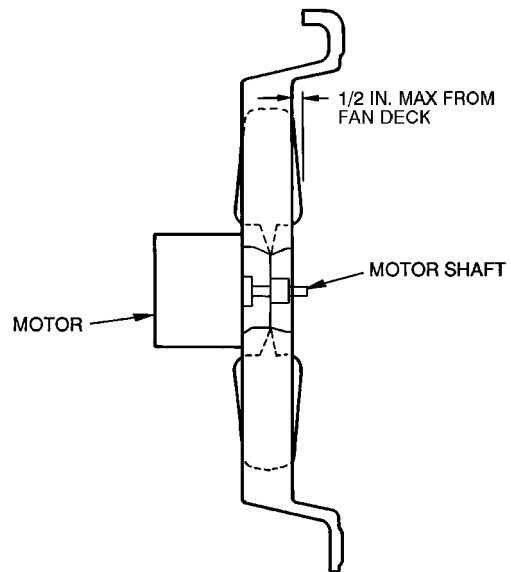

Fig. 35 — Fan Blade Clearance
4. When replacing fan blade, position blade so that leading edge is 2 in. back from outdoor inlet grille or 1/2 in. maximum from fan deck. See Fig. 35.